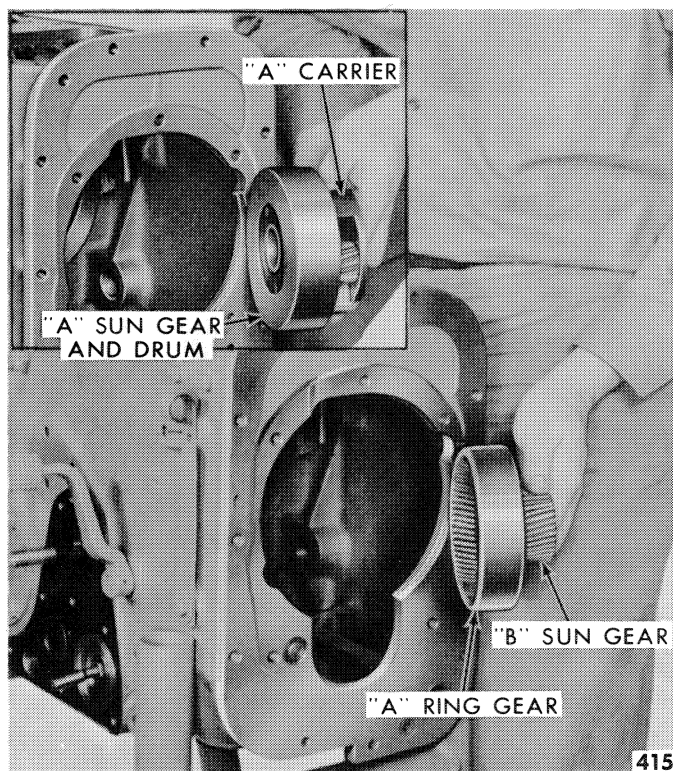

Figure 94—Removing the "B" Sun Gear and the "A" Planetary System
13. Remove the "B" sun gear and "A" ring gear, shown in Figure 94. The "A" carrier and "A" sun
gear assembly can now be removed from the transmission input shaft as shown in the insert, Figure 94.